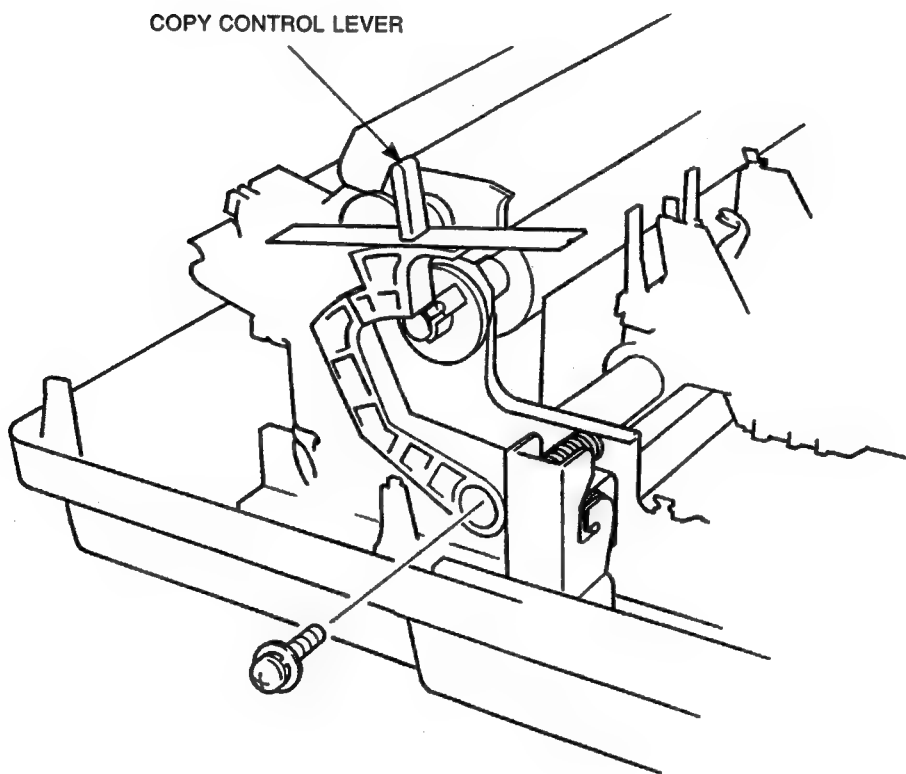

Figure 3-17 Copy Control Lever
1. Remove the screw securing the copy control lever to the guide shaft and remove the lever (see Figure 3-17).